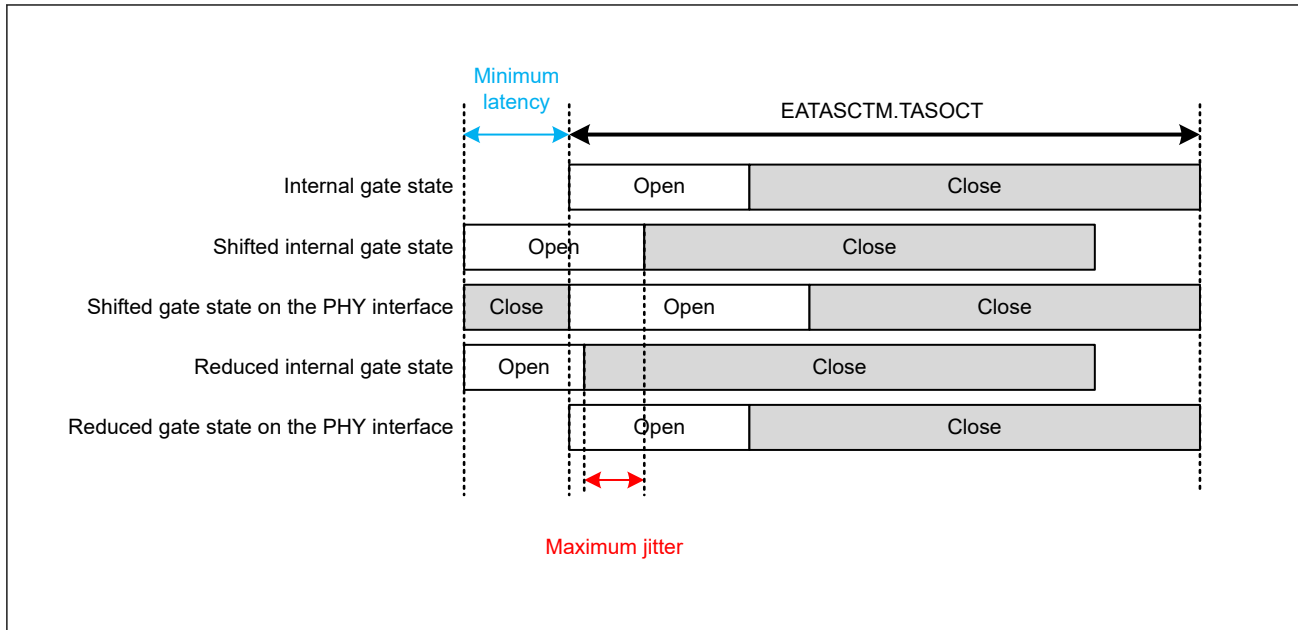

Figure 32.30 Maximum jitter calibration
Because of the internal maximum jitter, with a non-calibrated schedule, a frame always finishes transmitting late on the PHY interface [RMAC]. To correct this, a TAS schedule opened gate should always be closed in advance compared to the expected close time of the maximum jitter (Figure 32.30). This maximum jitter should be calculated using equation (9). To calibrate the schedule, software should set the maximum jitter in EATASHCC.TASJ register.